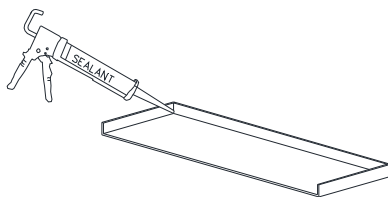

Figure 3:
- Apply sealant in all corners and seams of the sillpan (Figure 3).